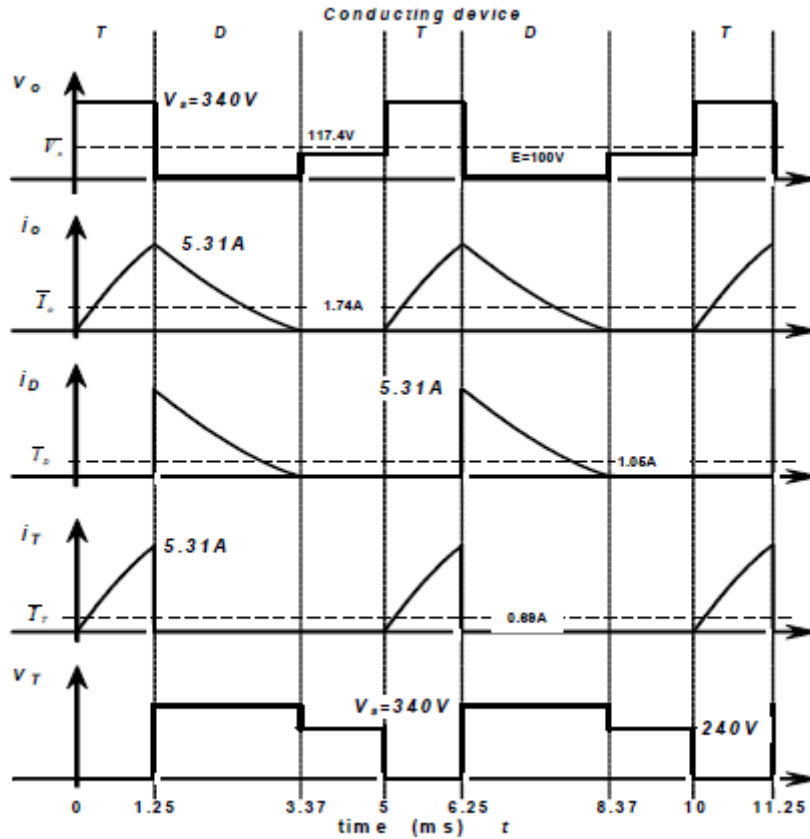

Figure 14.9. Example 14.3. Chopper circuit waveforms.
- viii. The circuit, load, and output voltage and current waveforms are plotted in figure 14.9.